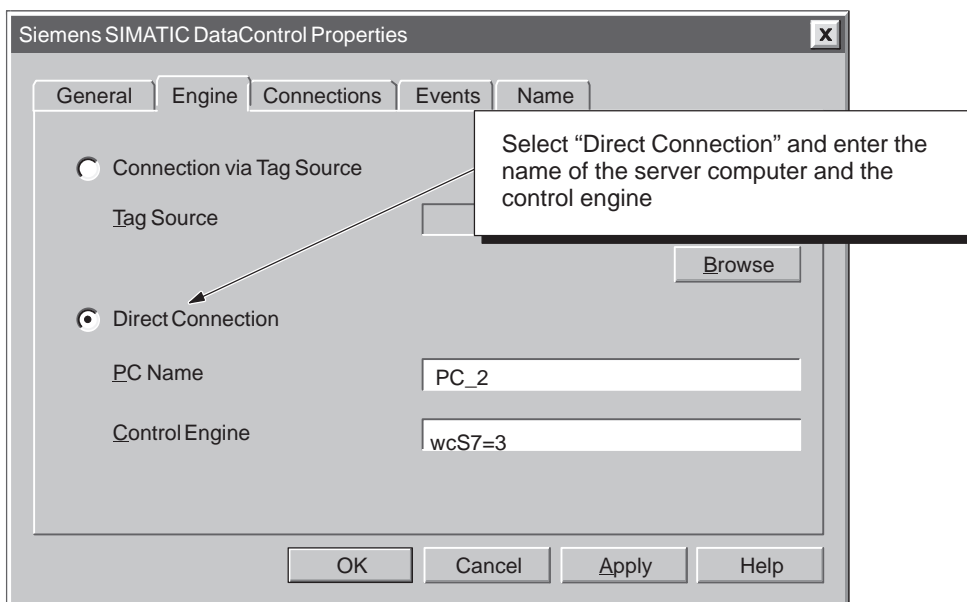

Figure 5-6 Configuring DCOM for a Specific Control Engine
3. Select the “Direct Connection” option. See Figure 5-6.